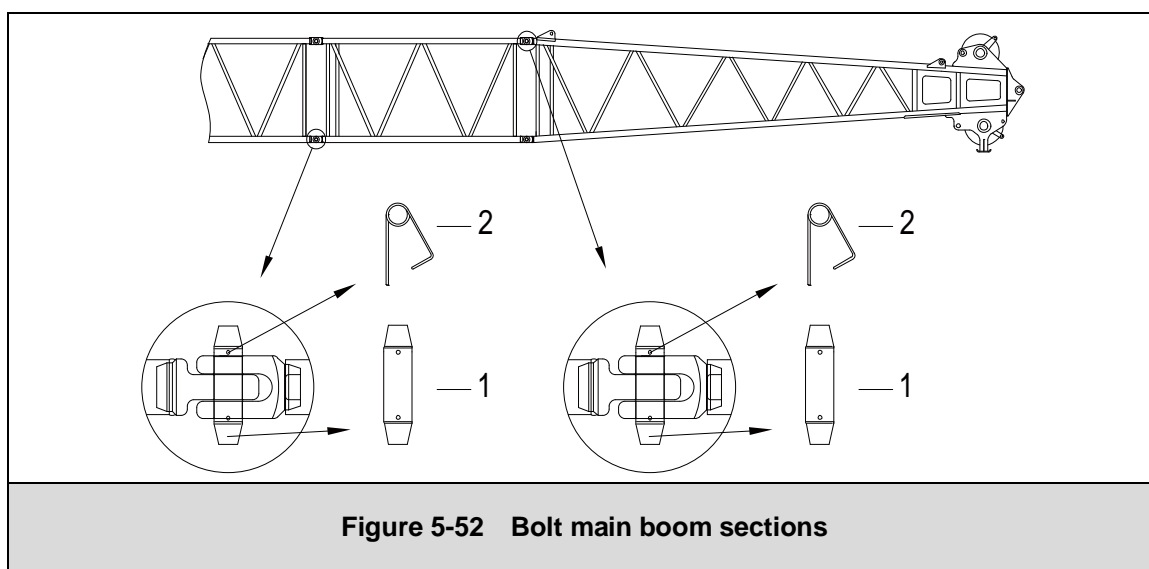
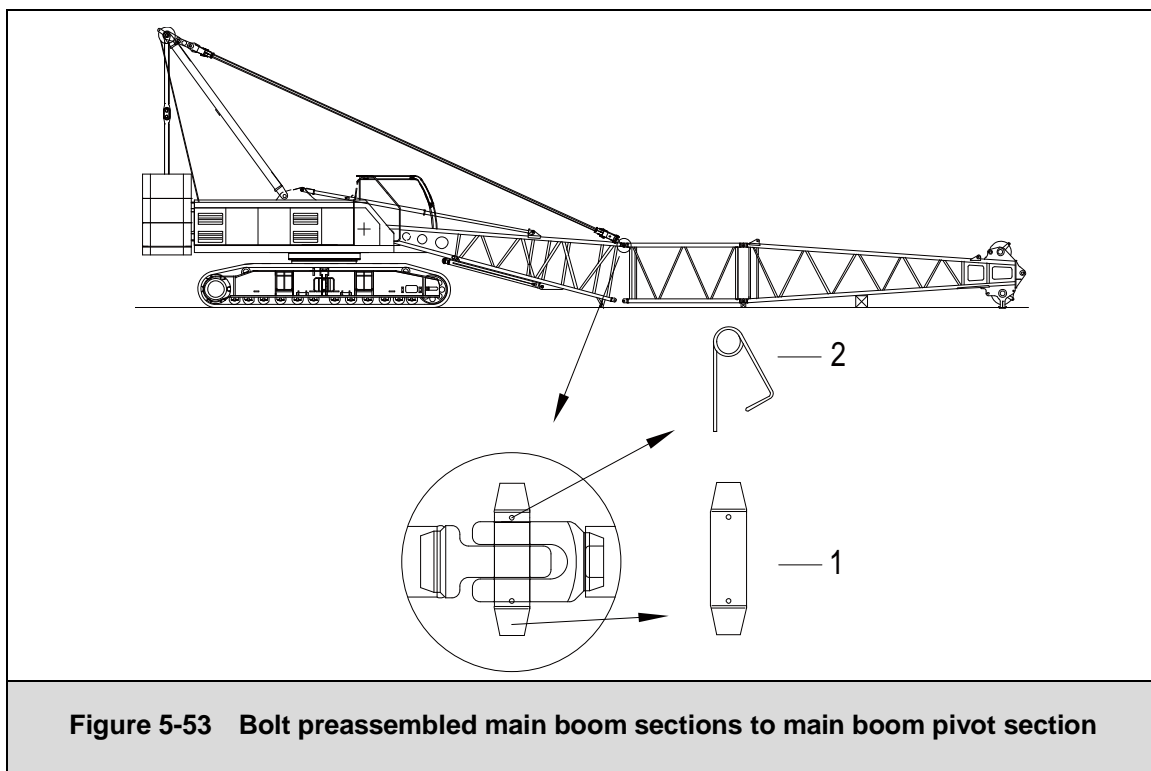

Figure 5-52 Bolt main boom sections
Figure 5-53 Bolt preassembled main boom sections to main boom pivot section
Position two intermediate sections to be bolted in such a way that the connecting holes in one intermediate section are precisely aligned with those in another intermediate section (see the following figure 5-52).
- c) Operate derricking winch in such a way (see Section 4.6.4) that the upper connecting holes in main boom pivot section are aligned with those in adjacent main boom intermediate section. See the figure 5-53.
- d) Join the upper connecting holes with double tapered pins (1) and secure the pins properly with retaining pins (2).
- f) Join the lower connecting holes with double tapered pins (1) and secure the pins with retaining pins (2).
The components used in connecting main boom sections are shown in the table 5-14, and the serial numbers in the table is the same with those in figure 5-52, and figure 5-53.